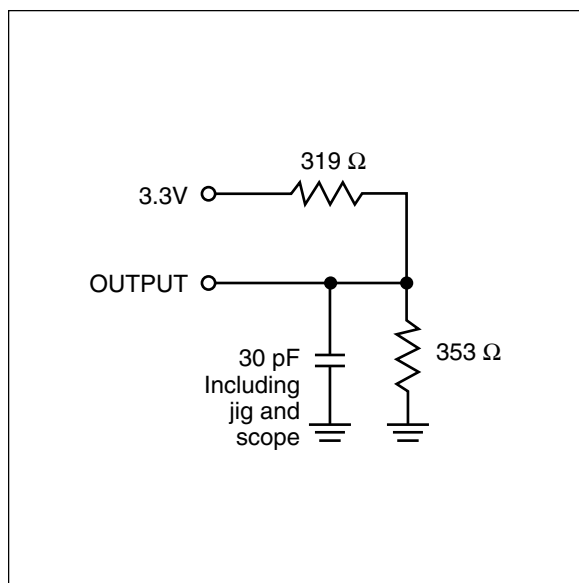

Figure 1a.
1. Test conditions assume signal transition times of 3 ns or less, timing reference levels of 1.5V, input pulse levels of 0 to 3.0V and output loading specified in Figure 1a.
| Output Load | See Figures 1a and 1b |